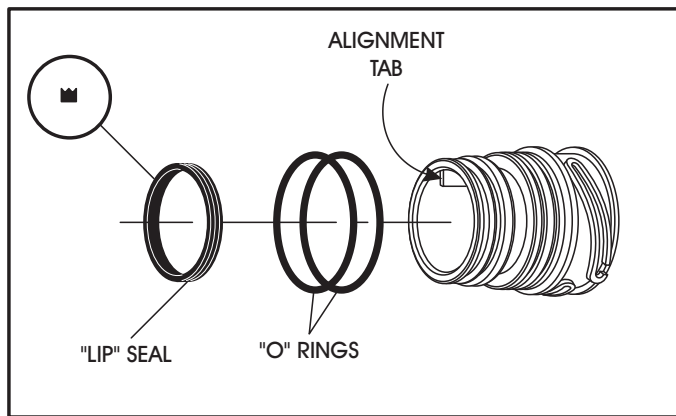

Figure 173
42. Install two new "O" rings into the grooves in the connector sleeve, as shown in Figure 173, and lubricate with small amount of Trans-Jel®.
43. Install a new "lip" seal into the groove in the connector sleeve, as shown in Figure 173, and lubricate with small amount of Trans-Jel®.